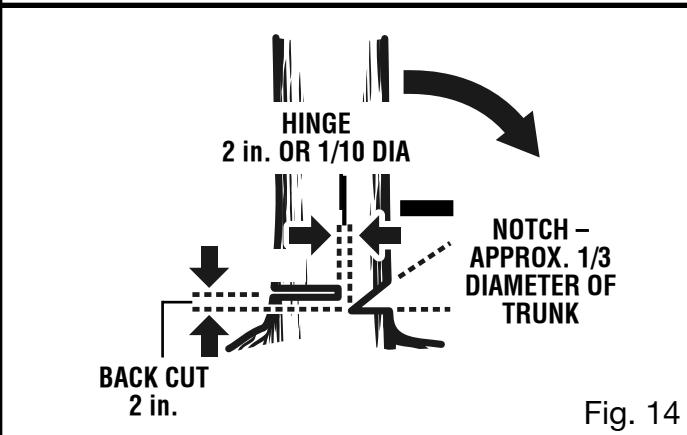

Fig. 14
- **Notched Undercut.** Cut a notch about 1/3 the diameter of the tree, perpendicular to the direction of fall. Make the cuts of the notch so they intersect at a right angle to the line of fall. This notch should be cleaned out to leave a straight line. To keep the weight of the wood off the saw, always make the lower cut of the notch before the upper cut. *See Figure 14.*
- **Felling Backcut.** The backcut is always made level and horizontal, and at a minimum of 2 in. above the horizontal cut of the notch. *See Figures 14 - 15.*
tree). This is called “hinge” or “hingewood.” It controls the fall of the tree and prevents slipping or twisting or shoot-back of the tree off the stump. See Figures 14 - 15.